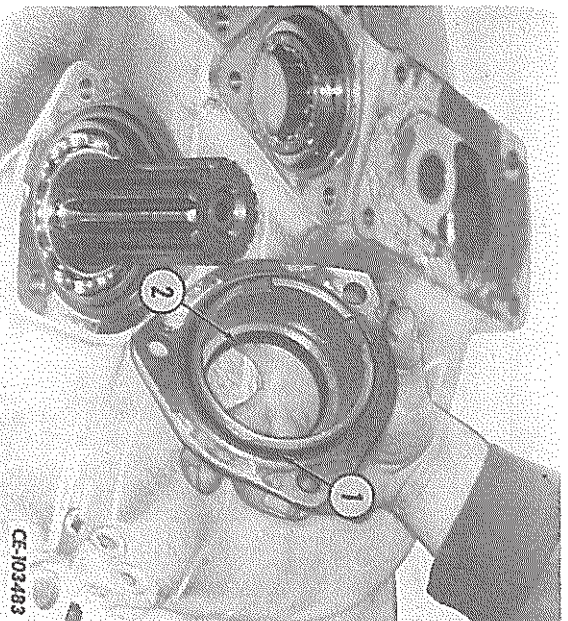

FIG. 33 — Removing the Oil Seal Housing
22. Remove the oil seal housing from the front cover. Remove and discard the sealing ring (1, Fig. 33) and oil seal (2).